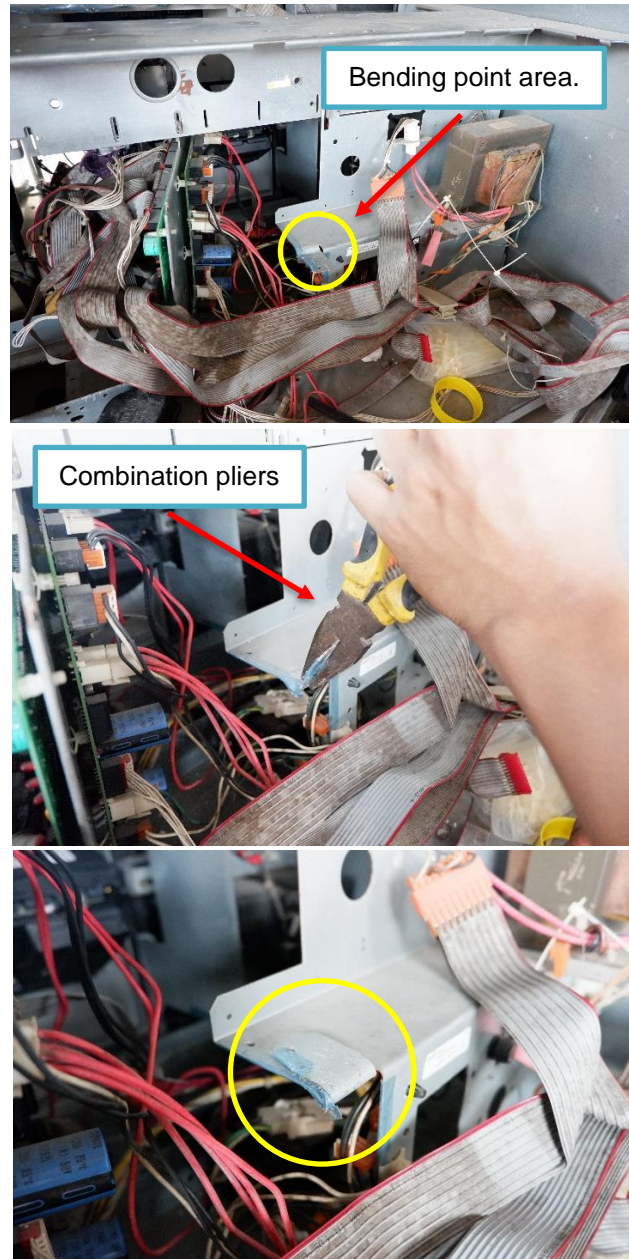

Fig 4.19 – Bend the interfere point by using the combination pliers.
- 16.** Part of an internal bracket in the dispenser on B side (fig 2.2 g) needs to be modify by bending the part to the top side. The purpose of this process is to provide panel door enough clearance when closing. (Fig 4.19)